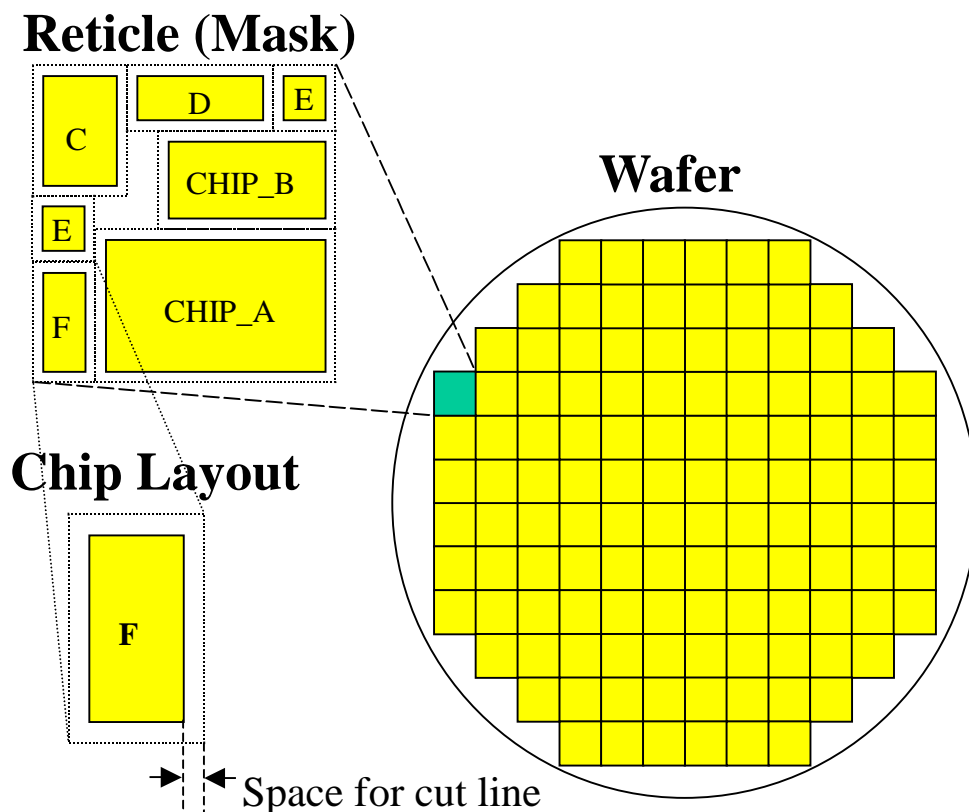
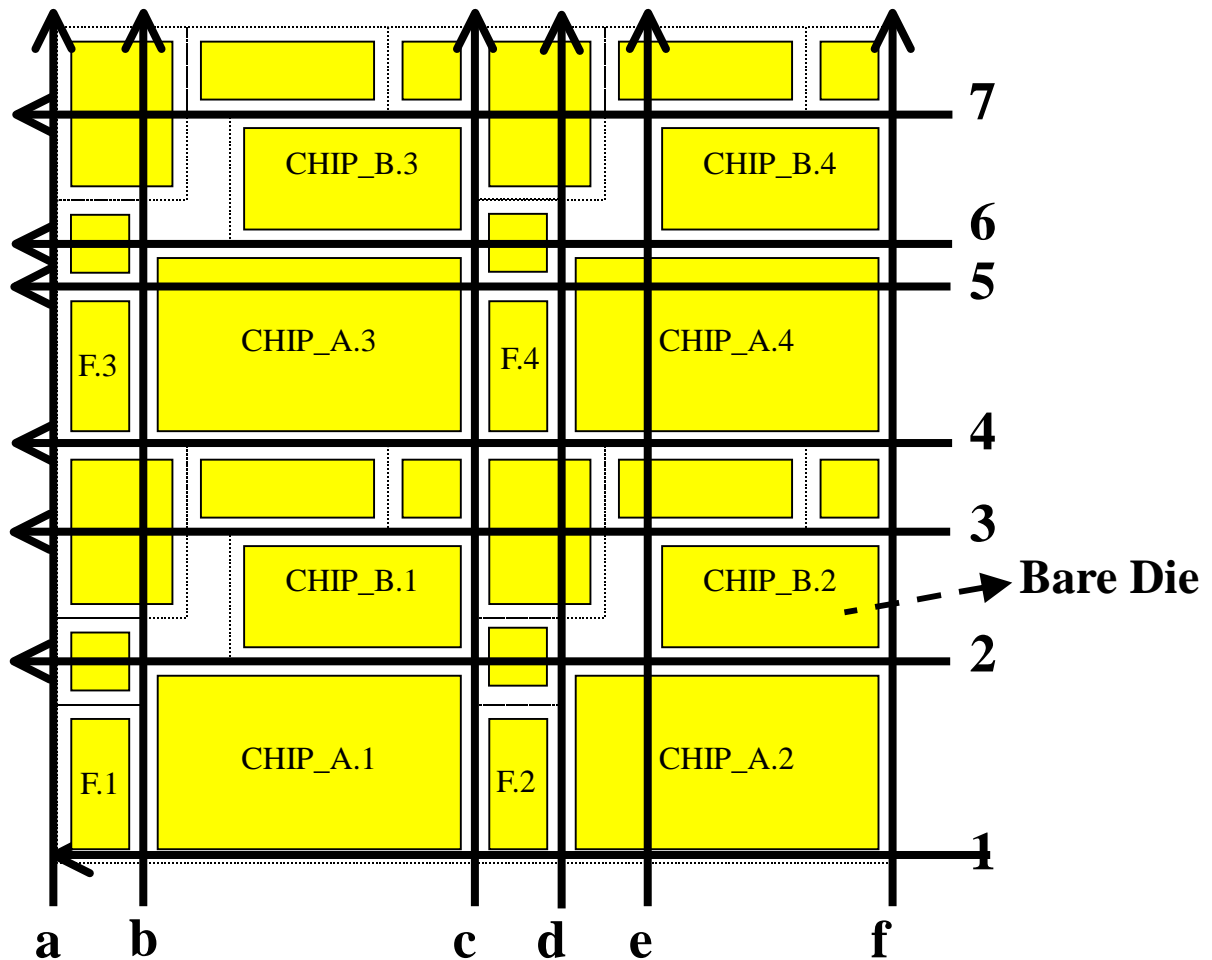

Fig. 1. A Multi-Project Wafer
Fig. 2. An example of Die Saw
- (1). Customers submit chip layouts to an MPW vendor.
- (2). An MPW vendor arranges the chip layouts from different projects on a reticle. A reticle is a block that contains several chip layouts, and is used for making a mask-tooling set. Fig. 1 shows an example of reticles.
- (3). A mask house makes a set of mask tooling according to the reticle arranged by an MPW vendor.
- (4). A manufacture foundry fabricates wafers by exposing the masks repeatedly.
- (5). A die saw house cuts the fabricated wafers to obtain bare dice. A bare die is a chip that is cut from a wafer but has not been packaged. Fig. 2 shows an example of a bare die.
- (6). An MPW vendor ships the obtained bare dice to its customers.
Figure 1 demonstrates an example of an MPW. Suppose that there are 6 projects, from CHIP\_A to CHIP\_F, are submitted in step 1 to be fabricated in an MPW. To achieve this goal, we must properly arrange the chip layouts of those projects on a reticle in step 2 and then use the reticle for making a mask-tooling set in step 3. The sizes of the generated masks and the reticle are identical. As the masks are ready, a manufacture foundry starts fabrication in step 4 by exposing the masks repeatedly on a wafer like that shown in Fig. 1. A wafer is only exposed under a set of mask-tooling (a reticle); however, a set of mask tooling (a reticle) can be reused for the exposure of multiple wafers. Basically, the more
In Fig. 1, there are 120 duplications of the reticles in the wafer. In other words, there are 120 chip layouts for CHIP\_A, CHIP\_B, CHIP\_C, CHIP\_D, and CHIP\_F, and 240 chip layouts for CHIP\_E in the wafer. However, it is impossible to obtain the above number of bare dice without loss of a project in a wafer, because some dice, e.g., CHIP\_C and CHIP\_E, will be destroyed when die saw is performed to obtain one die, e.g., CHIP\_A.
Figure 2 shows a part of the wafer shown in Fig. 1. In Fig. 2, we can apply cut lines *l* & *2* and cut lines *b* & *c* to get a bare die "CHIP\_A.1". And we can apply cut lines *2* & *3* and cut lines *e* & *f* to get a bare die "CHIP\_B.2". Please notice that CHIP\_A.2 will be *destroyed* and CHIP\_B.1 will be *discarded* while we apply the above cut lines to obtain CHIP\_A.1 and CHIP\_B.2. The way to cut the wafer is called die saw. A cut line must start and end at wafer edge. That means we must cut the whole wafer along the specified cut lines and cannot start or stop any cut line inside the wafer. Because the wafer will not be totally broken after applying cut lines, the final bare dice are only dependent on the positions of planned cut lines, but are independent of the sequence of applying cut lines.
For the example shown in Fig. 2, we finally obtain one die of CHIP\_A (CHIP\_A.1), two dice of CHIP\_B (CHIP\_B.2 and CHIP\_B.4), and two dice of CHIP\_F (CHIP\_F.3 and CHIP\_F.4) from the partial wafer.